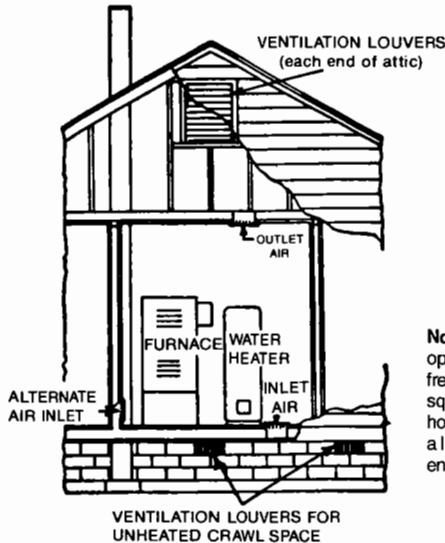

Fig. 2. Equipment Located in Confined Spaces; All Air from Outdoors — Inlet Air from Ventilated Crawl Space and Outlet Air to Ventilated Attic. See 5.3.3-b.
1. When directly communicating with the outdoors, each opening shall have a minimum free area of 1 square inch per 4,000 Btu per hour of total input rating of all equipment in the enclosure. (See Figure 2.)